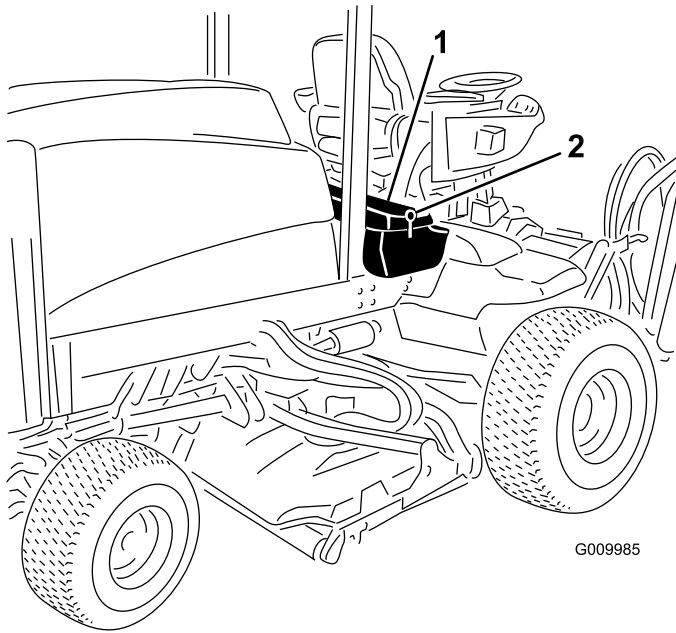

Figure 91
1. Unlatch and raise the operator's console panel (Figure 91).